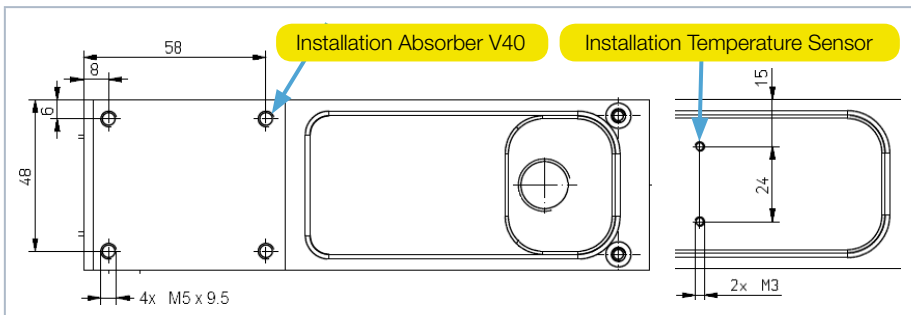

Fig. 3.1: Threaded holes
2. After cooling down the Absorber V40 unscrew 4 M5 fixing screws at the bottom (see Fig. 3.1 on Page 8) and remove the Absorber V40 from the laser system.